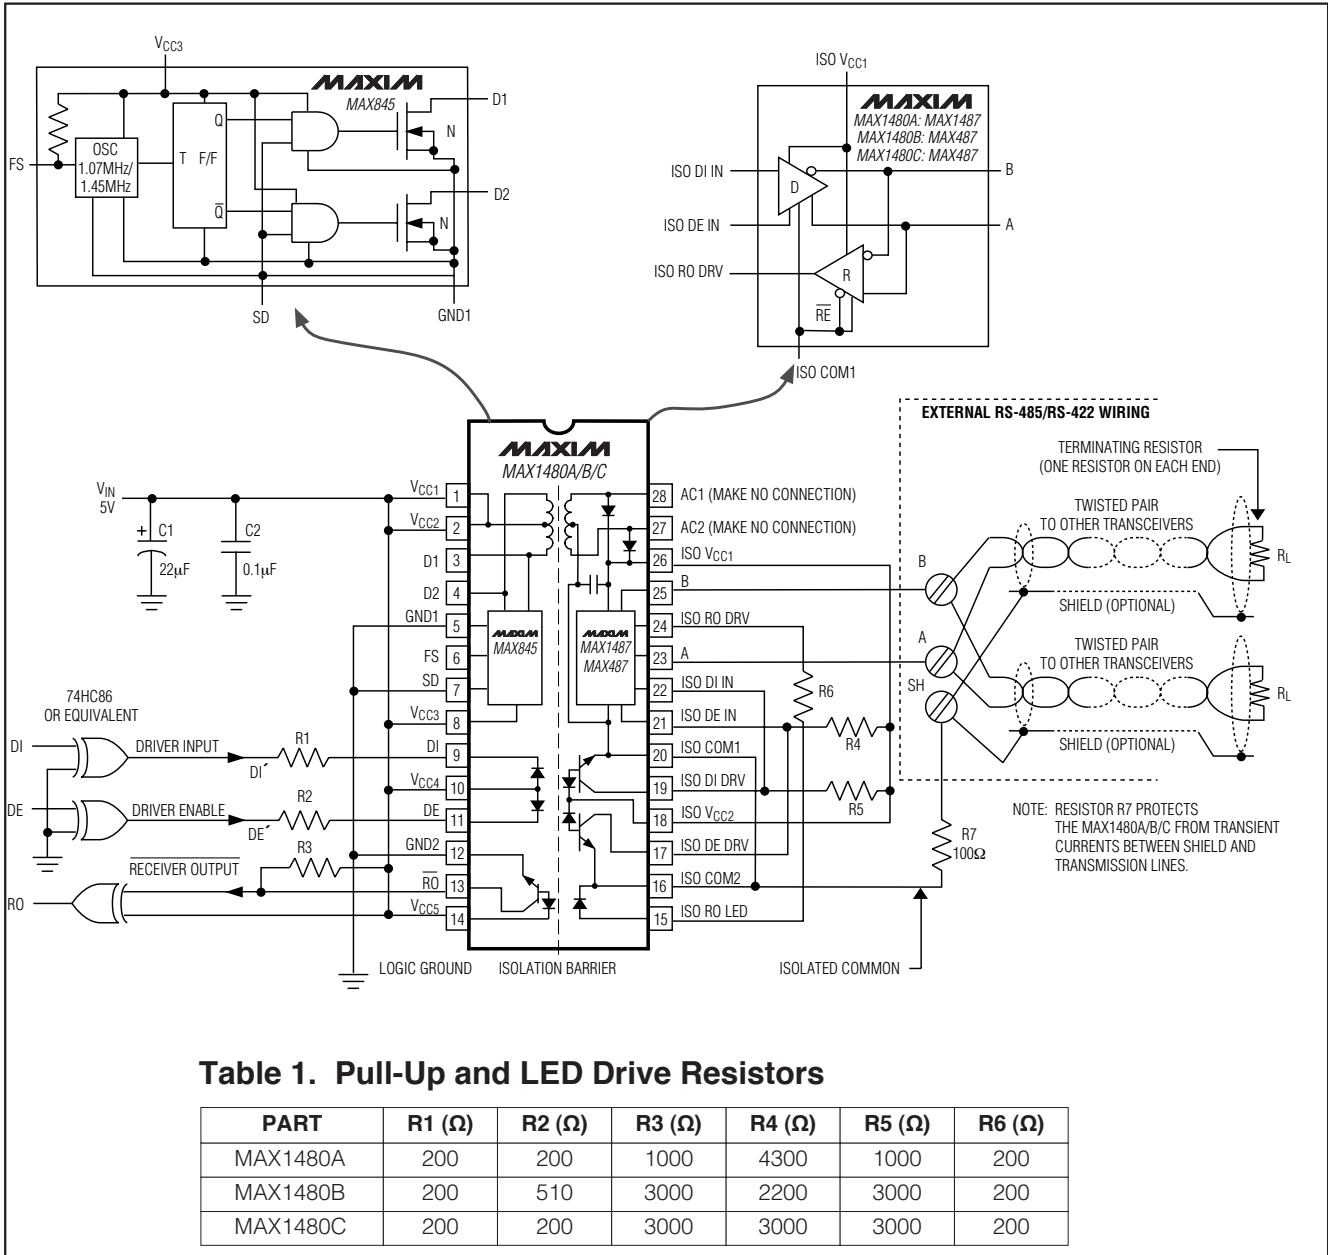
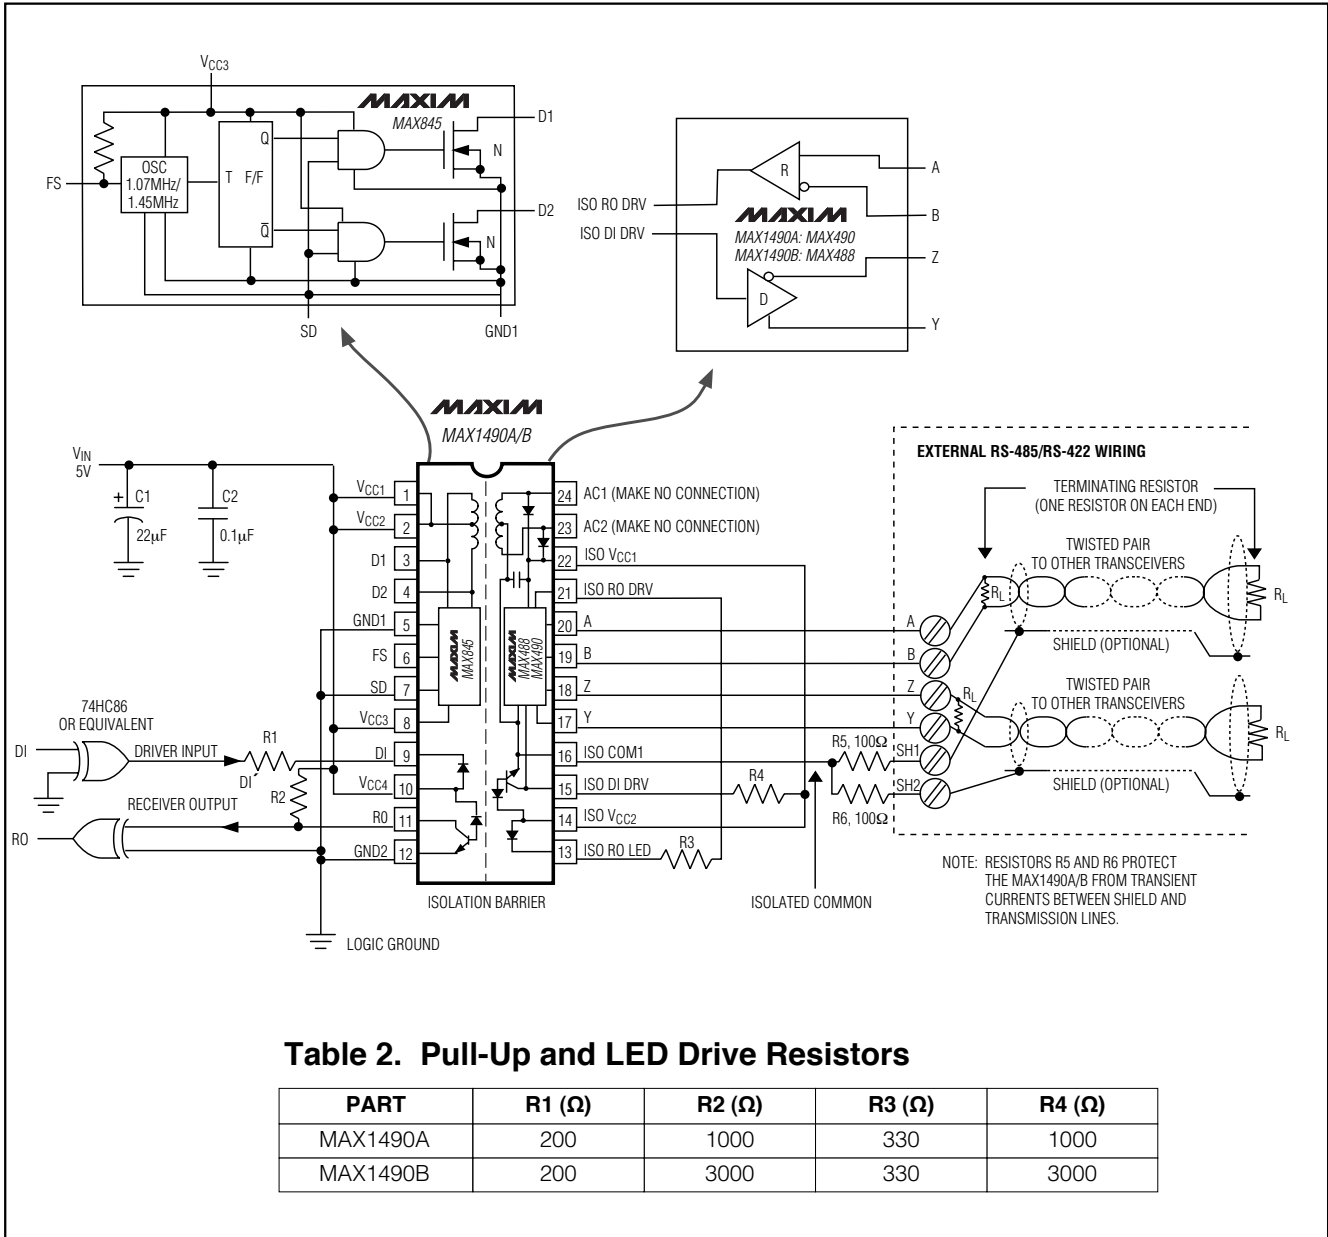

Figure 1. MAX1480A/MAX1480B/MAX1480C Detailed Block Diagram and Typical Application Circuit
Figure 2. MAX1490A/MAX1490B Detailed Block Diagram and Typical Application Circuit
Note 2: For DE' and DI' pin descriptions, see *Detailed Block Diagram and Typical Application Circuit* (Figure 1 for MAX1480A/MAX1480B/MAX1480C, Figure 2 for MAX1490A/MAX1490B).
Note: For DE⁺ and DI⁺ pin descriptions, see *Detailed Block Diagram and Typical Application Circuit* (Figure 1 for MAX1480A/B/C, Figure 2 for MAX1490A/B).
The MAX1480A/MAX1480B/MAX1480C/MAX1490A/MAX1490B are complete, electrically isolated, RS-485/RS-422 data-communications interface solutions. Transceivers, optocouplers, a power driver, and a transformer in one standard 28-pin DIP package (24-pin for the MAX1490A/B) provide a complete interface. Signals and power are internally transported across the isolation barrier (Figures 1, 2). Power is transferred from the logic side (nonisolated side) to the isolated side of the barrier through a center-tapped transformer. Signals cross the barrier through high-speed optocouplers. A single +5V supply on the logic side powers both sides of the interface. The MAX1480A/B/C offer half-duplex communications while the MAX1490A/B feature full-duplex communication. The functional input/output relationships are shown in Tables 3–6.
* For DE¹ and DI¹ pin descriptions, see *Detailed Block Diagram and Typical Application Circuit* (Figure 1 for MAX1480A/B/C, Figure 2 for MAX1490A/B).
The MAX1480A/MAX1480B/MAX1480C/MAX1490A/MAX1490B are specified and characterized using the resistor values shown in Table 1 of Figure 1 and Table 2 of Figure 2. Altering the recommended values can degrade performance.
The isolated common may be completely floating with respect to the logic ground and the effective network ground. The receiver input resistors will cause the isolated common voltage to go to the mean voltage of the receiver inputs. If using shielded cable, connect the isolated common to the shield through a 100Ω resistor. In the case of the MAX1490, each shield should have its own 100Ω resistor (Figures 1, 2, 13, and 14).